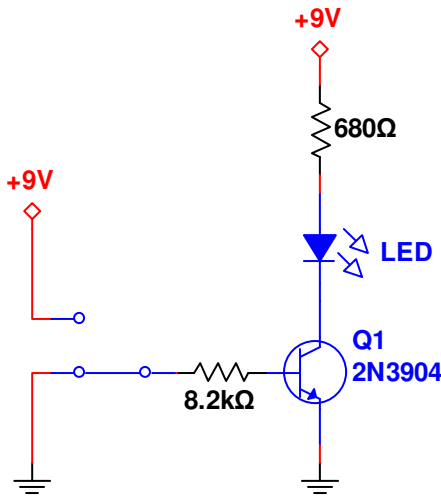

Fig. 1
1) Consider the LED driver shown in Fig. 1. The input comes from a SPDT switch. Assume the LED has a forward voltage drop $V_F = 2V @ 10 mA$. Perform a “typical” analysis.